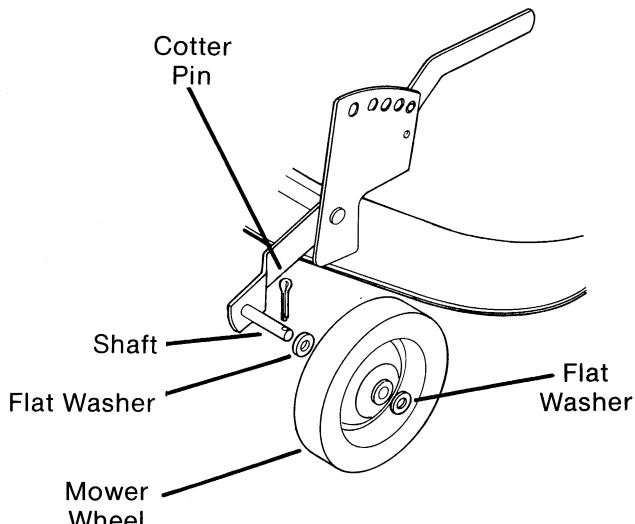

FIG. 2
A. Lubricate mower wheel shafts with SAE #30 wt. oil. (Fig. 2)
- B. Slide one flat washer then mower wheel and another flat washer onto shaft on each end of wheel hanger. Secure each mower wheel in place on shaft with a cotter pin. (Fig. 2)